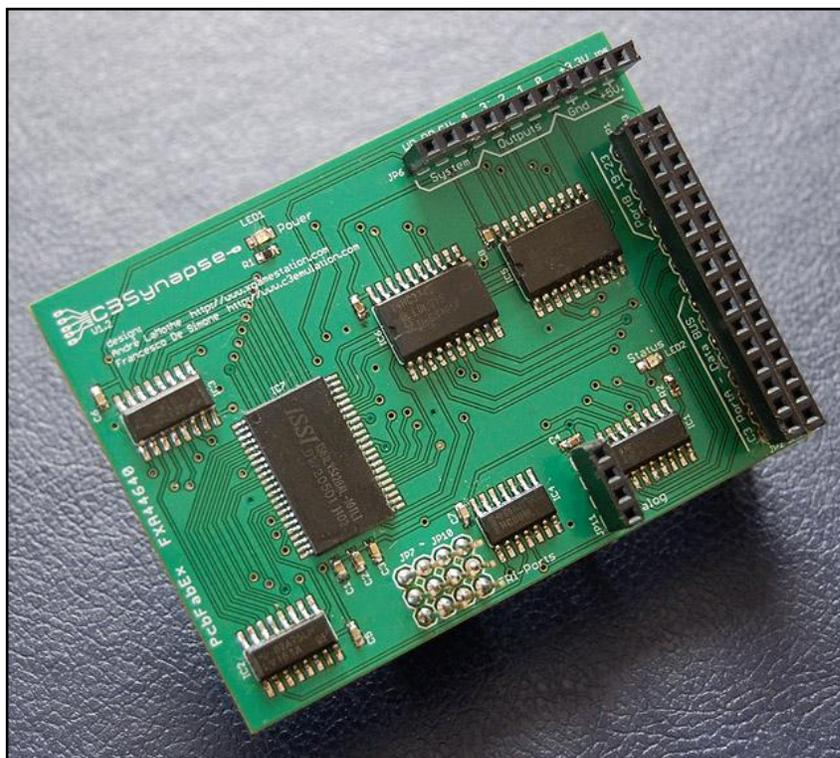

Figure 2: C3Synapse Board.
- Figure 2: C3Synapse Board 8
This is the memory expansion board to be stacked on your PropC3, see the **Figure 2** below.